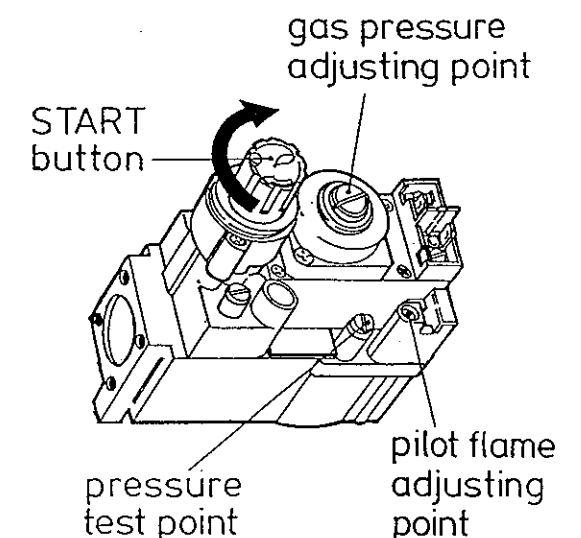

Fig. 3 Multifunctional control
- 7.13 Allow the heater to operate for 15 minutes, then adjust the burner pressure to the output required (see Fig.3 and Table 2).
Loosen the bleed screw at the pressure test point on the multifunctional control (see Fig.3), attach a gas pressure gauge and check the pressure. Confirm by gas rate check at the meter.
Remove the cover from the gas pressure adjusting point on the multifunctional control (see Fig.3) and turn the adjustment screw clockwise to increase the burner setting pressure, anticlockwise to decrease.